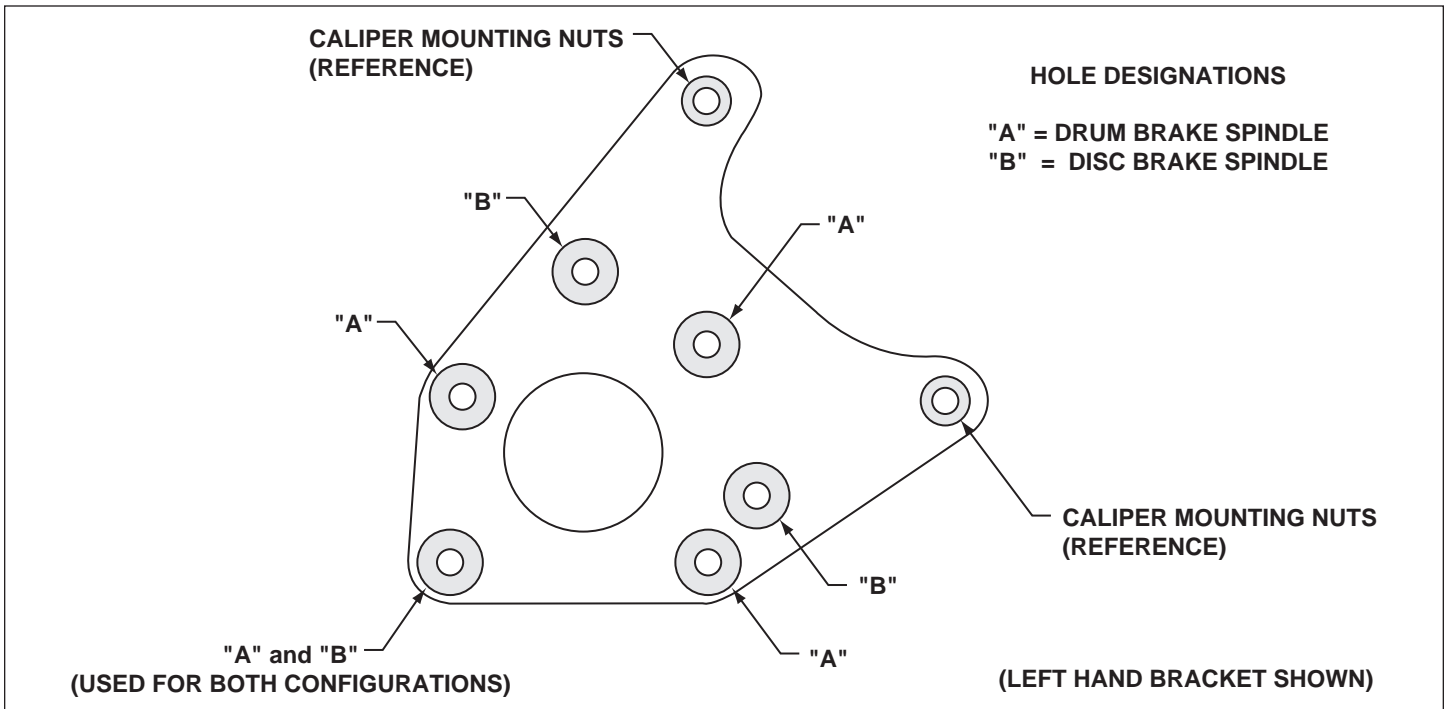
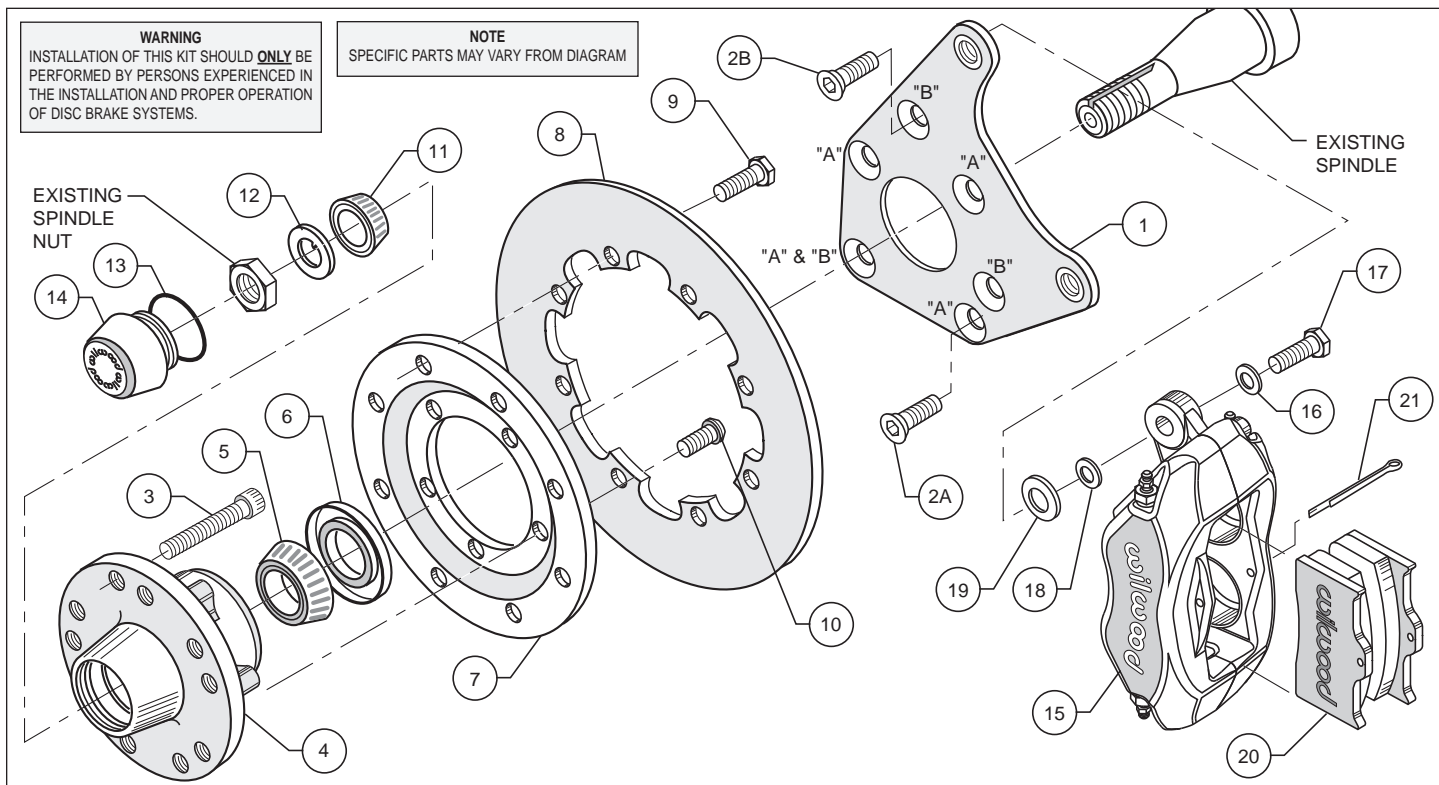

Figure 1. Wilwood Caliper Mounting Bracket
Figure 2. Typical Installation Configuration
This kit has been designed for use with both the disc brake or the drum brake configuration of vehicle. The only difference is in how the Wilwood caliper mounting bracket is installed. The same bracket is used for both configurations; the disc brake version utilizes three mounting holes while the drum brake application uses four mounting holes (see Figure 1). For your convenience we have supplied bolt kits for both applications (see parts list and Figure 2 as necessary, item(s) 2A and 2B). Use the bolt kit that is applicable to your vehicle and disregard the other one.
These modifications should be performed by a qualified machinist and completed before assembly of the Wilwood disc brake kit begins. Using the caliper mounting bracket as a template (refer to figure 1 as necessary), locate and verify the three original stock holes on the steering arm that need to be modified. Drill a .332 diameter hole through all three holes, then tap 3/8-24 UNF (fine thread). Countersink the holes to .438 x 90°.
- As mentioned before, this kit uses the same mounting bracket (1) for both the drum and disc brake spindle. The drum version utilizes four mounting bolts (designated with a "A"), while the disc only requires three (designated with a "B"). Refer to figure 1 and figure 2 as required for the basic installation position of the bracket and the "A" and "B" reference designations (these designations are not physically marked on the bracket, they are referenced on the drawings for your convenience) and align using the three or four holes (as applicable) to the face plate of the steering arm. Install bolts (2A or 2B) through caliper mounting bracket (1) into steering arm, finger tighten only. After you are positive of the bracket (1) alignment, remove the mounting bolts (2A or 2B) one at a time and Apply red *Loctite*® 271 to bolt threads (2A or 2B), then reinstall. Torque bolts (2A or 2B) to 30 ft-lb. **NOTE:** Be sure the heads of the bracket (1) insert nuts are facing outward toward the wheel.
- Install wheel studs (3) into the hub (4). Torque to 77 ft-lb. **NOTE:** There are two (2) five lug patterns in the hub (5 x 4.50 and 5 x 4.75). Make sure of the correct hole pattern for the correct wheel application before installing studs into hub.
- Pack the large inner bearing cone (5) with high temperature disc brake bearing grease (available from your local auto parts store) and install into the backside of the hub (4).
- Install the grease seal (6) by pressing into the backside of the hub (4).
- Mount the adapter/rotor assembly (7/8) to the hub (4) using bolts (10) (finger tight), as shown in Figure 1. Using an alternating sequence, remove bolts one at a time, apply red *Loctite*® 271 to the threads, and torque to 55 ft-lb.
- Pack the small outer bearing cone (11) with high temperature disc brake bearing grease and install into front of hub (4). Slide the hub/rotor assembly (4 and 8) with outer bearing cone (11) onto the spindle. Secure using spindle washer (12), stock adjusting nut and nut locking device. Adjust bearings per Original Equipment Manufacturer (OEM) specifications.
- Install the o-ring (13) and then the dust cap (14) onto the hub (4). Friction created by the o-ring (13) on the dust cap (14) keeps it from unscrewing.